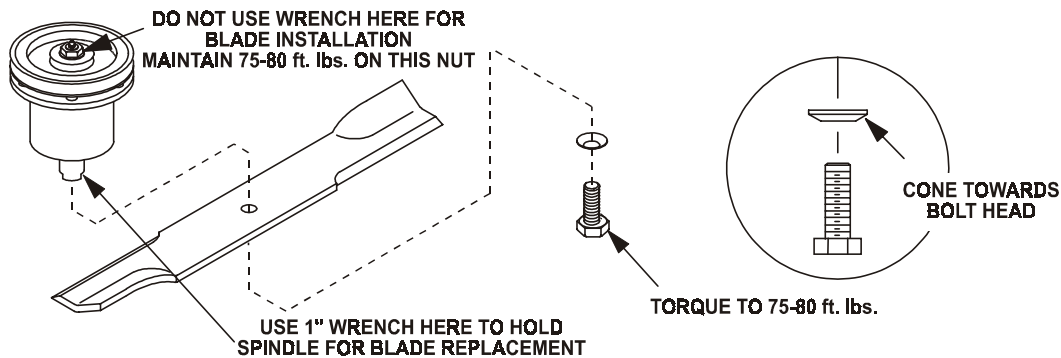

FIG. 5
- g) Re-install the blades (if they were removed) and torque blade bolts to 75-80 ft. lbs. Be sure the spring disk washer cone is installed toward the bolt head (See Figure 5).